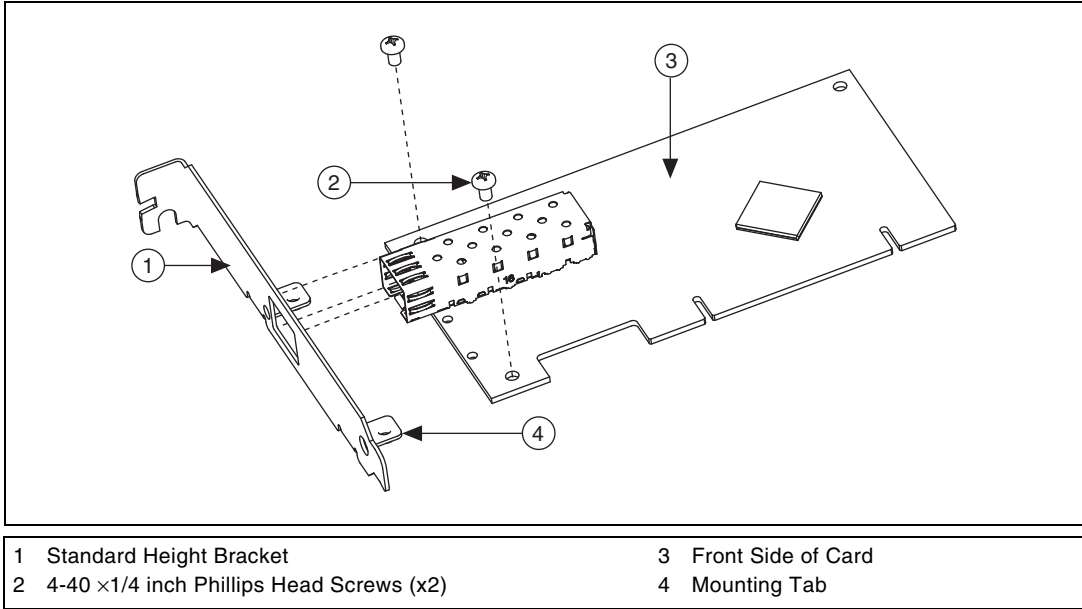

Figure D-2. Removing Bracket
4. Remove the two 4-40 \times 1/4 inch Phillips head screws that attach the standard height bracket to the card as shown in Figure D-2. Set the screws aside to re-use when installing the low-profile bracket.
5. Remove the standard height bracket as shown in Figure D-2.